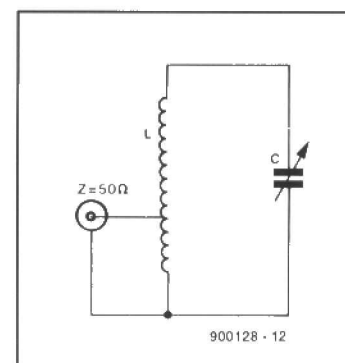
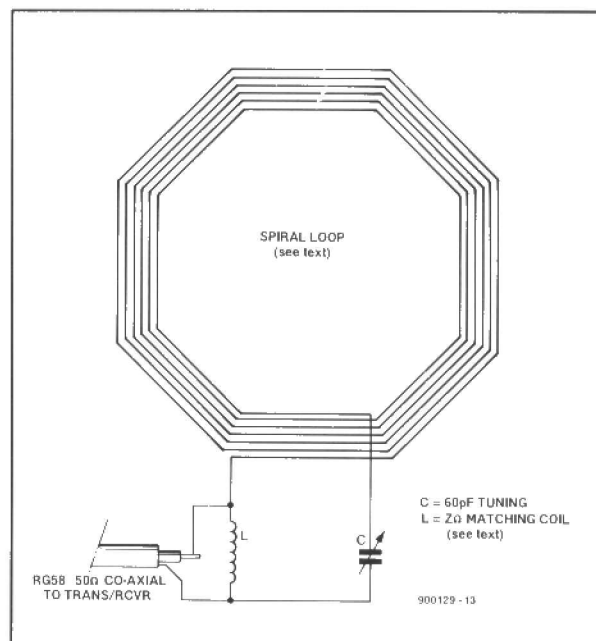
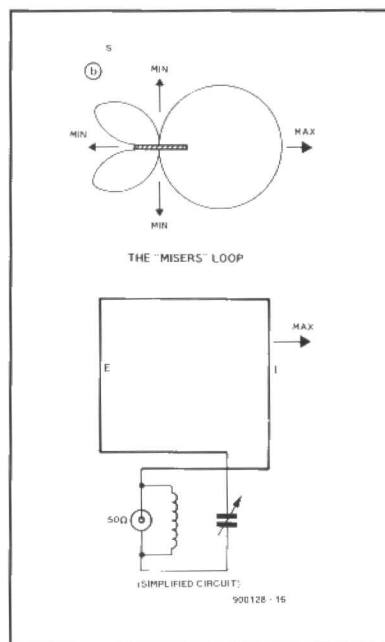

Fig. 3.
Fig. 4.
Fig. 5.
This thinking led to the 'Miser's T/R loop' design shown in Fig. 4, whose simplified electrical circuit is shown in Fig. 3: the familiar L/C tuned circuit, fed by coaxial cable, that can be found in most modern receivers and transmitters. A simplified design of the loop, together with its polar diagram, is given in Fig. 5. This shows only one turn of the multi-turn spiral. It will be seen that the maximum signal is on the outer high-current (I) turn, and the minimum on the inner high-voltage
The polar diagram was plotted by applying a small signal to the spiral loop of Fig. 4 and placing a field-strength meter at a fixed distance. The loop was then rotated gradually and the relative field strength plotted. Since the measurements were taken indoors, the results are suspect owing to possible reflections from surrounding objects. Nevertheless, later on-the-air tests confirmed that the gain of the large lobe is substantially greater than that of a figure-of-eight pattern and that the backward gain is well down with a sharp dip in the centre: hence the 'fishtail' pattern.
With an eye on Figures 4 and 6, solder the loop ends to *L* and *C*, cutting back the tails as required. It is imperative that the outer end of the loop goes to the top of the coil and the inner to the stator of the capacitor. The RG58 feedline is then connected and secured with